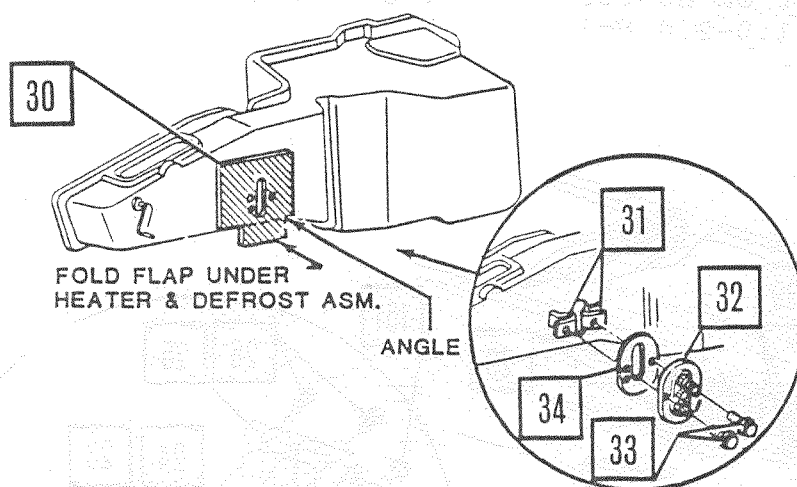

Figure 15.
85. Install temperature safety switch with nuts, gasket and screws (Figure 15.). Tighten to 15-20 lb.-in. (1.6-2.2 Nm).